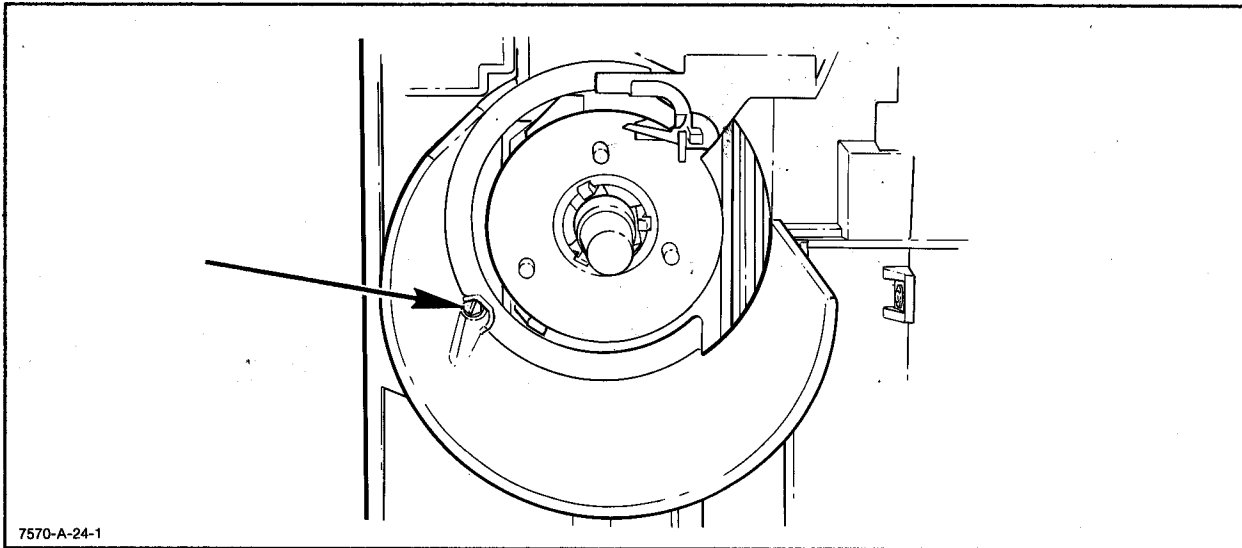

Figure 6-19. Pen Carousel Shield Removal
- c. Remove the self-tapping screw securing the shield. See Figure 6-19.